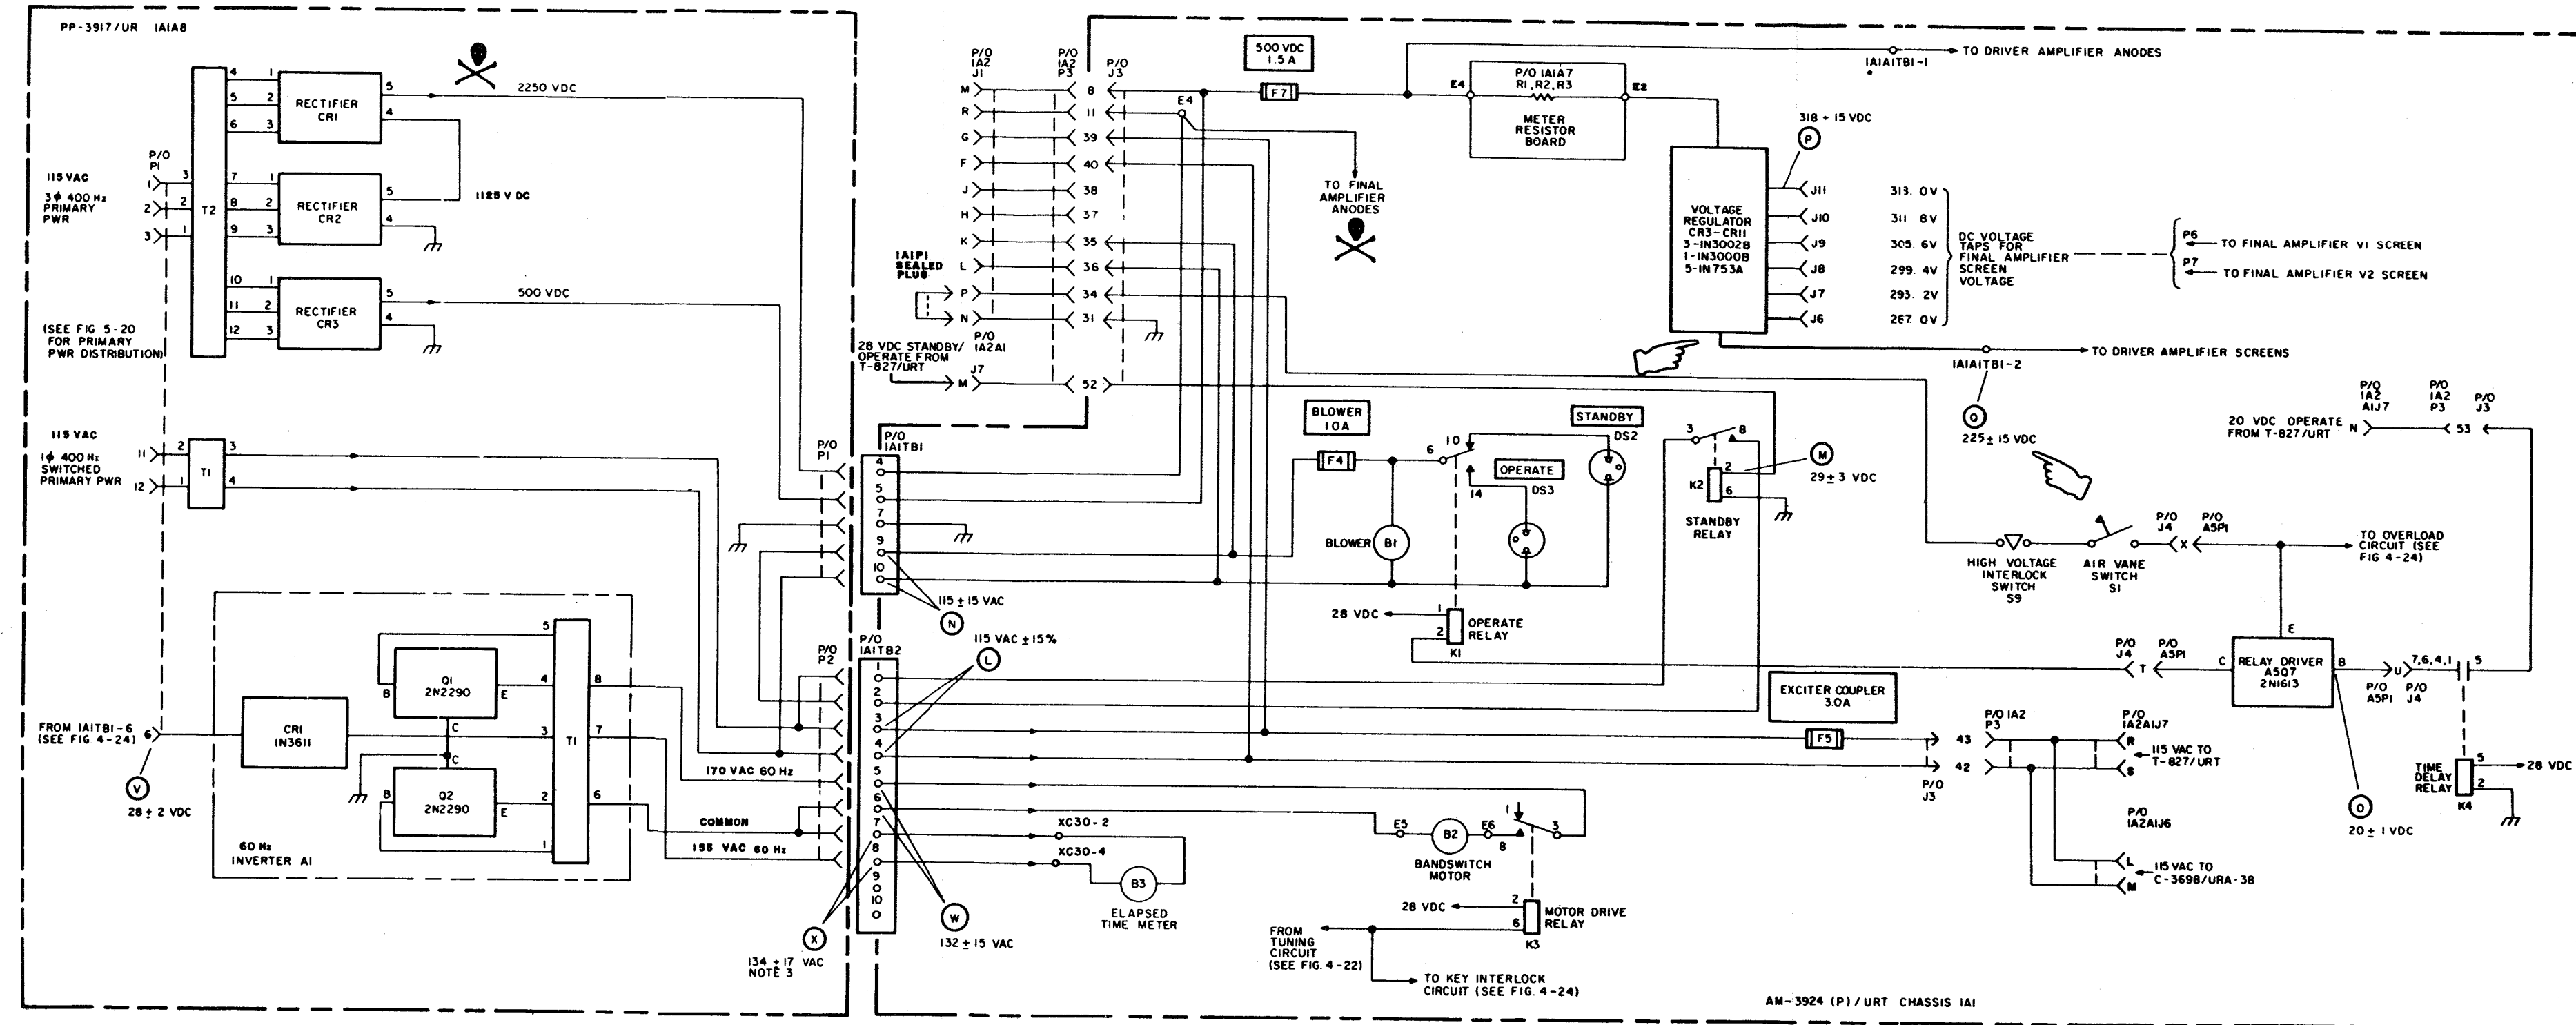

Figure 4-26. 400 Hz High Voltage Distribution, Servicing Block Diagram
- c. 400 Hz High Voltage Distribution, Servicing Block Diagram, Figure 4-26.
- (1) Multimeter AN/PSM-4()